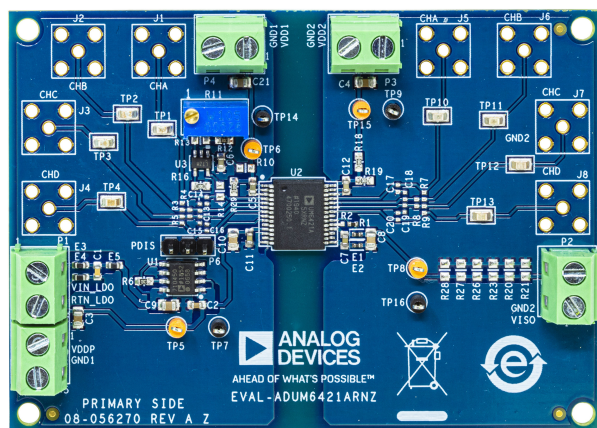
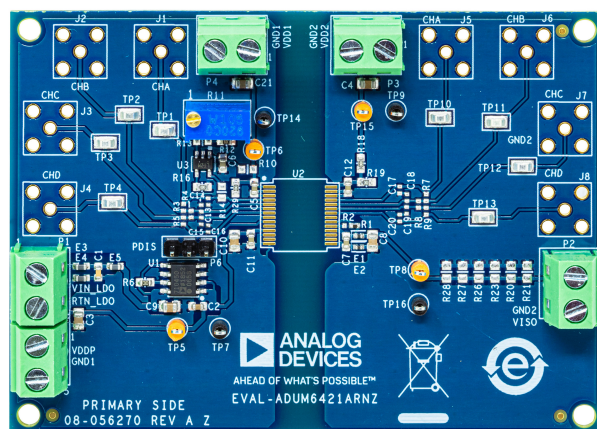
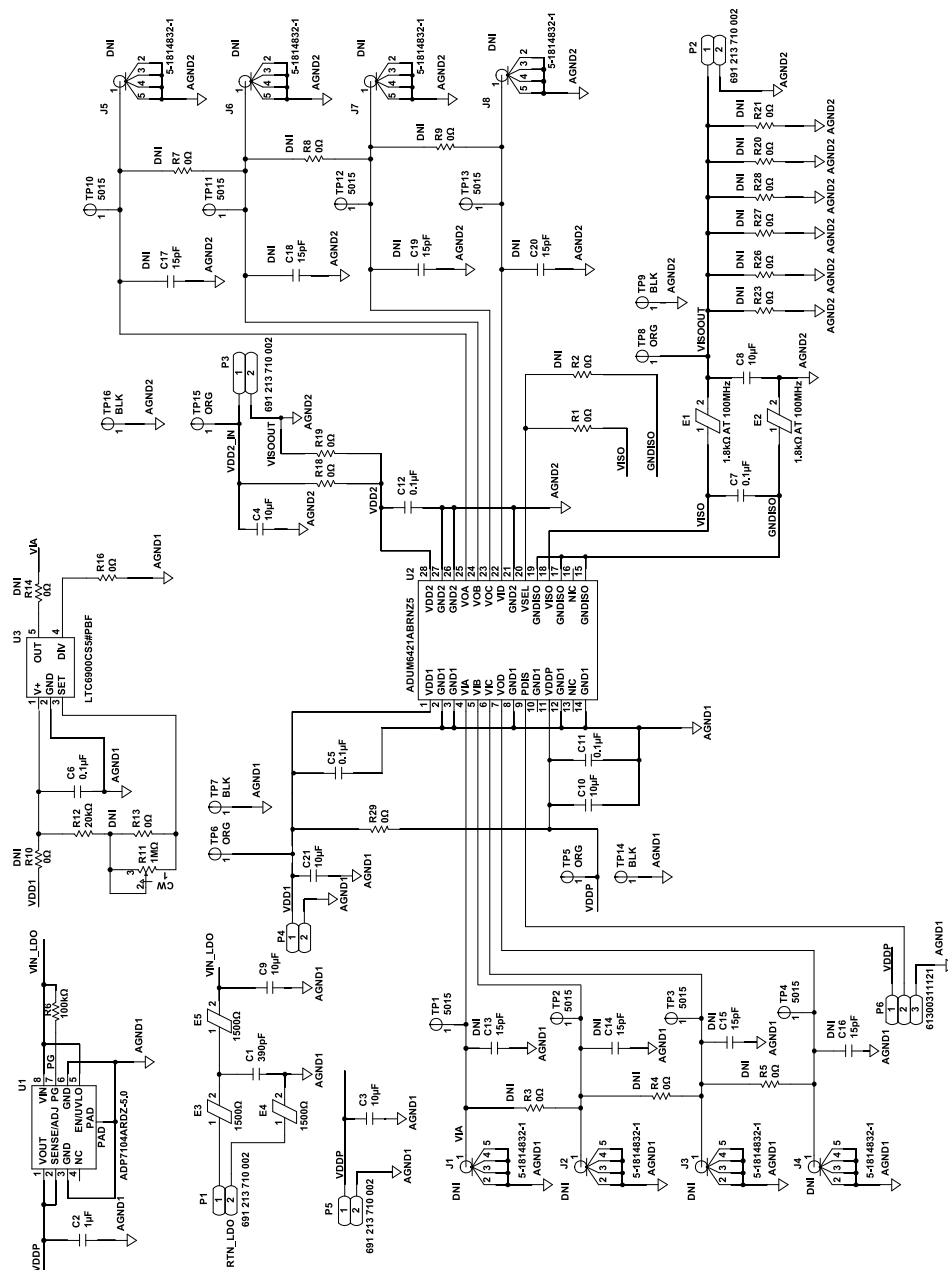

Figure 1. EVAL-ADuM6421ARNZ
Figure 2. EVAL-ADuM6421AURNZ
Figure 6. EVAL-ADUM6421ARNZ/EVAL-ADUM6421AURNZ Schematic
Figure 1 and Figure 2 show the EVAL-ADUM6421ARNZ and EVAL-ADUM6421AURNZ, respectively. The ADuM6221A and ADuM6420A/ADuM6421A/ADuM6422A/ADuM6423A/ADuM6424A can be powered directly or by the on-board low dropout (LDO) regulator. Either power scheme can be used without modification to the evaluation boards. The LDO input supply and return, Pin 1 and Pin 2, respectively, of Screw Terminal P1 (marked VIN_LDO and RTN_LDO in Figure 6), requires a power supply voltage of 6 V to 9 V. The LDO supply input is filtered by a ferrite bead network. The LDO generates the required 5 V to the ADuM6221A and ADuM6420A/ADuM6421A/ADuM6422A/ADuM6423A/ADuM6424A V_{DDP} pin. A 9 V battery can power the evaluation boards (when testing for electromagnetic compatibility (EMC), for example). Alternatively, the ADuM6221A and ADuM6420A/ADuM6421A/ADuM6422A/ADuM6423A/ADuM6424A can be powered directly with a 5 V supply through Pin 1 of Screw Terminal P5 (marked VDDP in Figure 6).
In both power schemes, the power supply return connects to Pin 2 of Screw Terminal P1 or P5 (marked AGND1 in Figure 6).
- ▶ Connect the V_{ISO} load (shown in Figure 6) using a PCB trace. Do not connect the V_{ISO} load to a power plane.